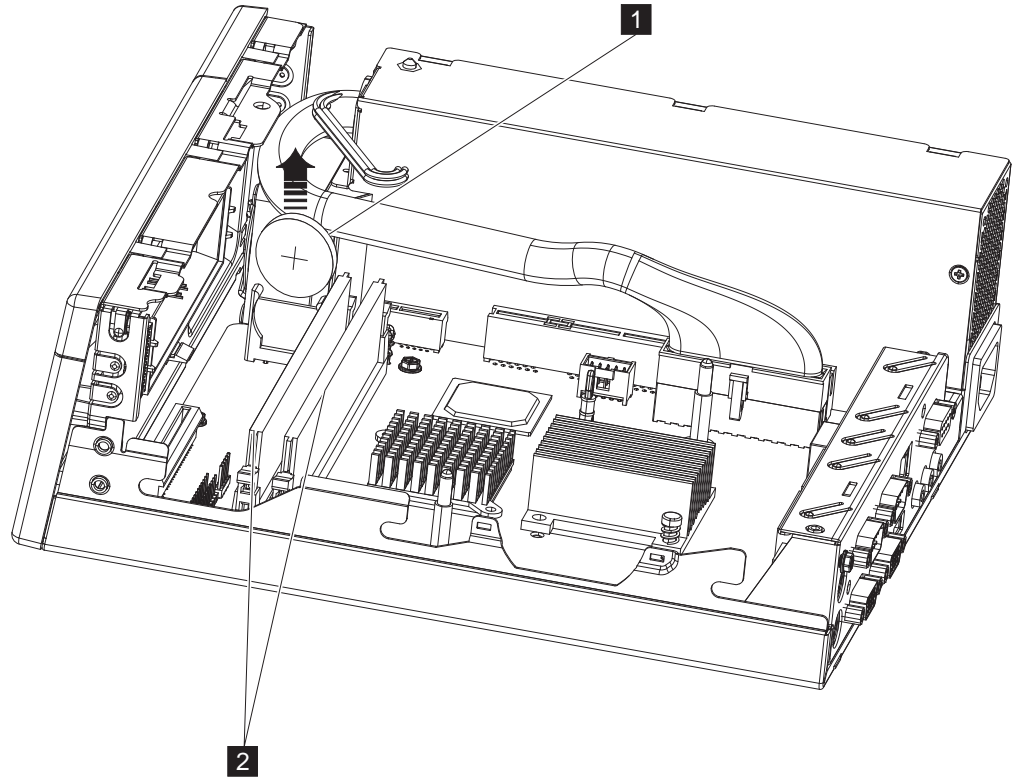

Figure 32. Removing and installing the battery
Figure 32 shows the battery location of the IBM SurePos 300 for Model x4x.
3. To install the battery, reverse this procedure. Be sure that the battery orientation is correct, with the plus (+) sign facing toward the memory modules **2**, as shown in Figure 32.